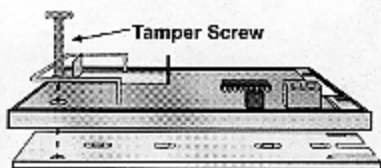

Figure 6 - Tamper Screw Installation
- If the installation requires additional security, use an additional panhead screw to mount the Point Transmitter as shown in Figure 6.